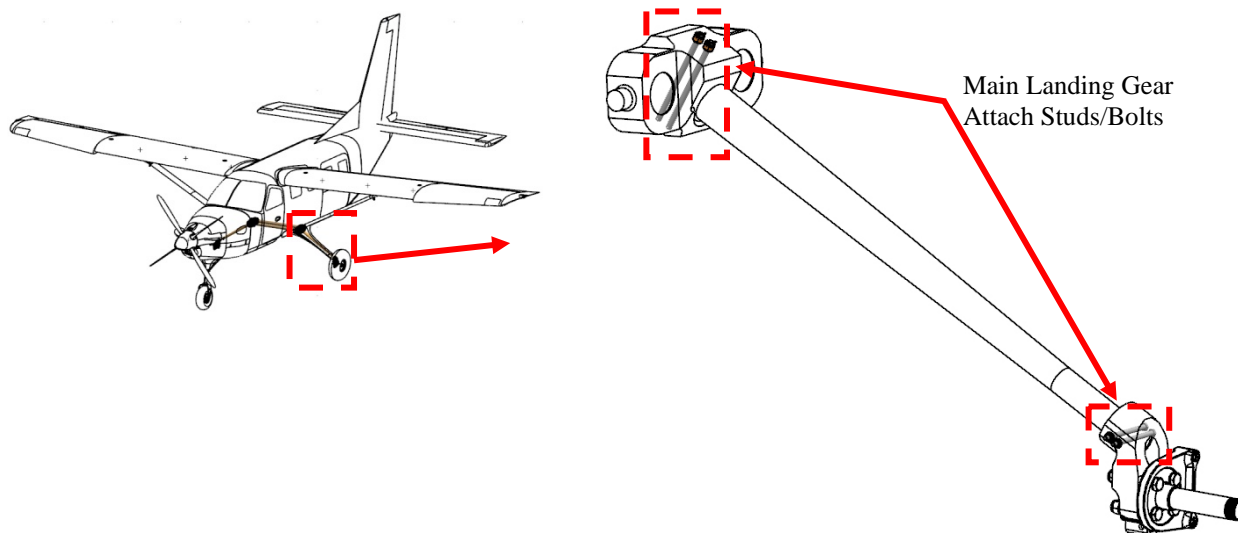

Figure 3-1: Main Landing Gear Overview
5. Remove and mark the two (2) upper bolts that secure the gear leg to the trunnion and remove and mark the two (2) lower bolts that secure the gear leg to the axle attach fitting (**Figure 3-1**).